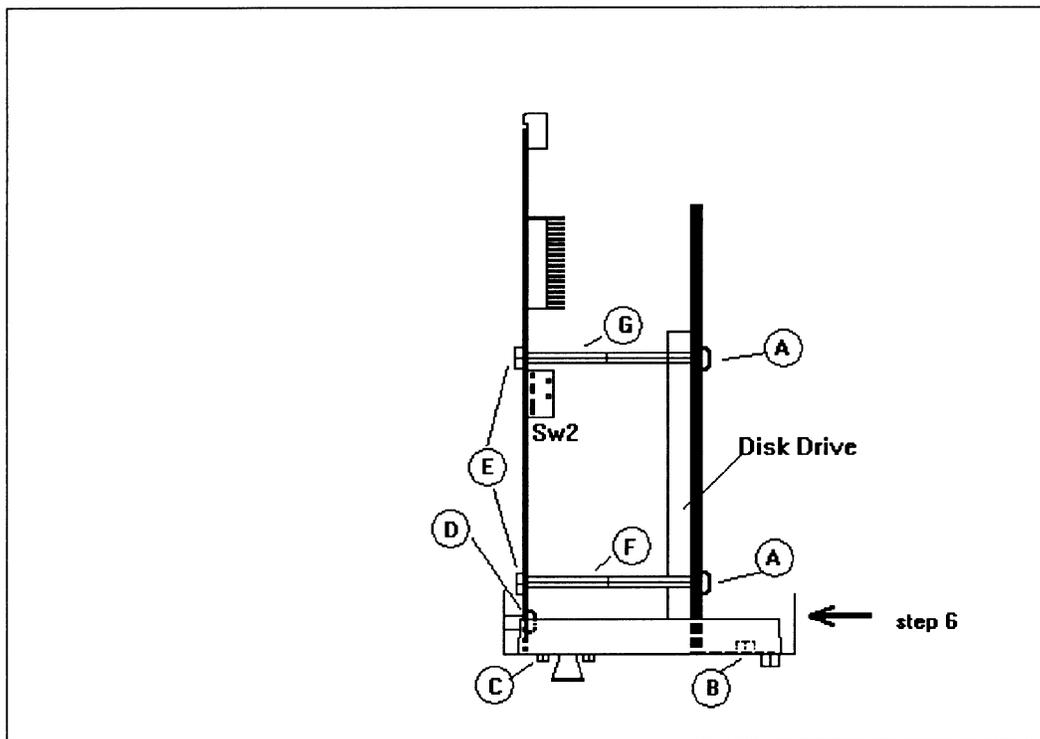

Figure 2 Processor Module (viewed from top)
5. Remove the clamp screws on the top and bottom right-hand side of the chassis which secure the CPU Module (see Figure 2).
1. Unscrew the four posidrive screws which secure the Disk Drive with its metal shield to the disk-drive supports on the CPU Board (Figure 2 item A).
2. Unscrew the nut which secures the Disk Drive to the CPU module front panel (Figure 2 item B).
5. Unscrew the two nuts which secure the PARALLEL Interface Connector to the module Front Panel (Figure 2 item C).
6. Using a long posidrive screwdriver, unscrew the two screws which secure the module Front Panel to the CPU Board (Figure 2 item D).
8. Unscrew the nuts (Figure 2 item E) securing the four disk-drive supports to the CPU Board. Discard these supports (Figure 2 items F and G).
9. Fit the two new supports from the kit in the rear two support holes only (Figure 2 item G).